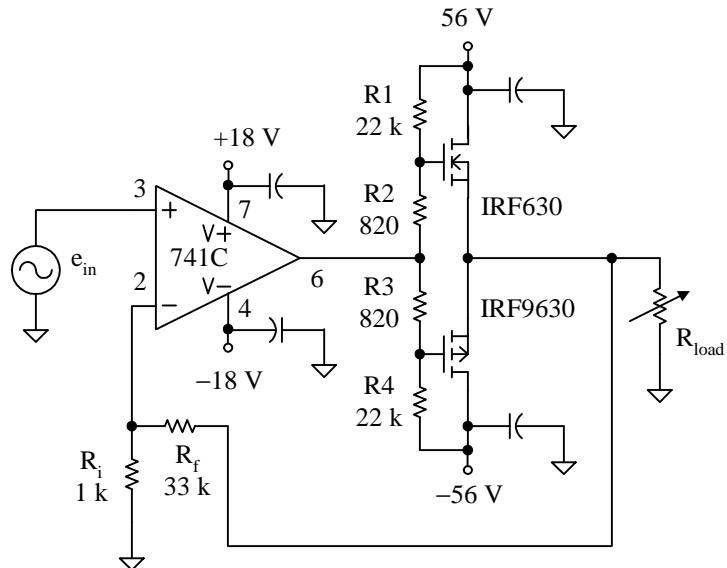

Figure 5-32 Push-pull power amplifier with an op amp driver
1. Build the circuit in Figure 5-32. Neatness counts. Carefully follow the steps from Chapter 2.